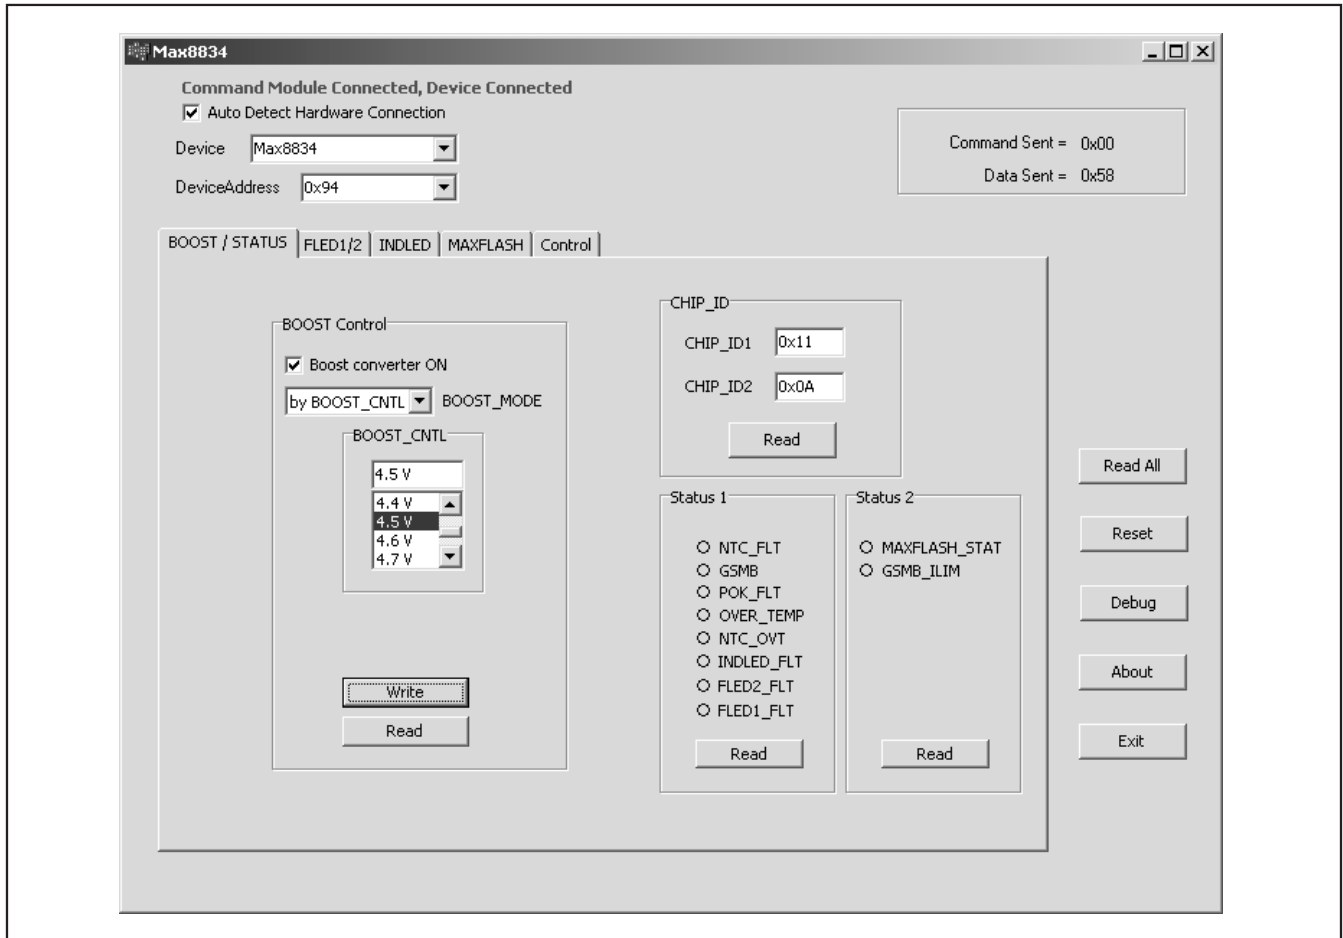
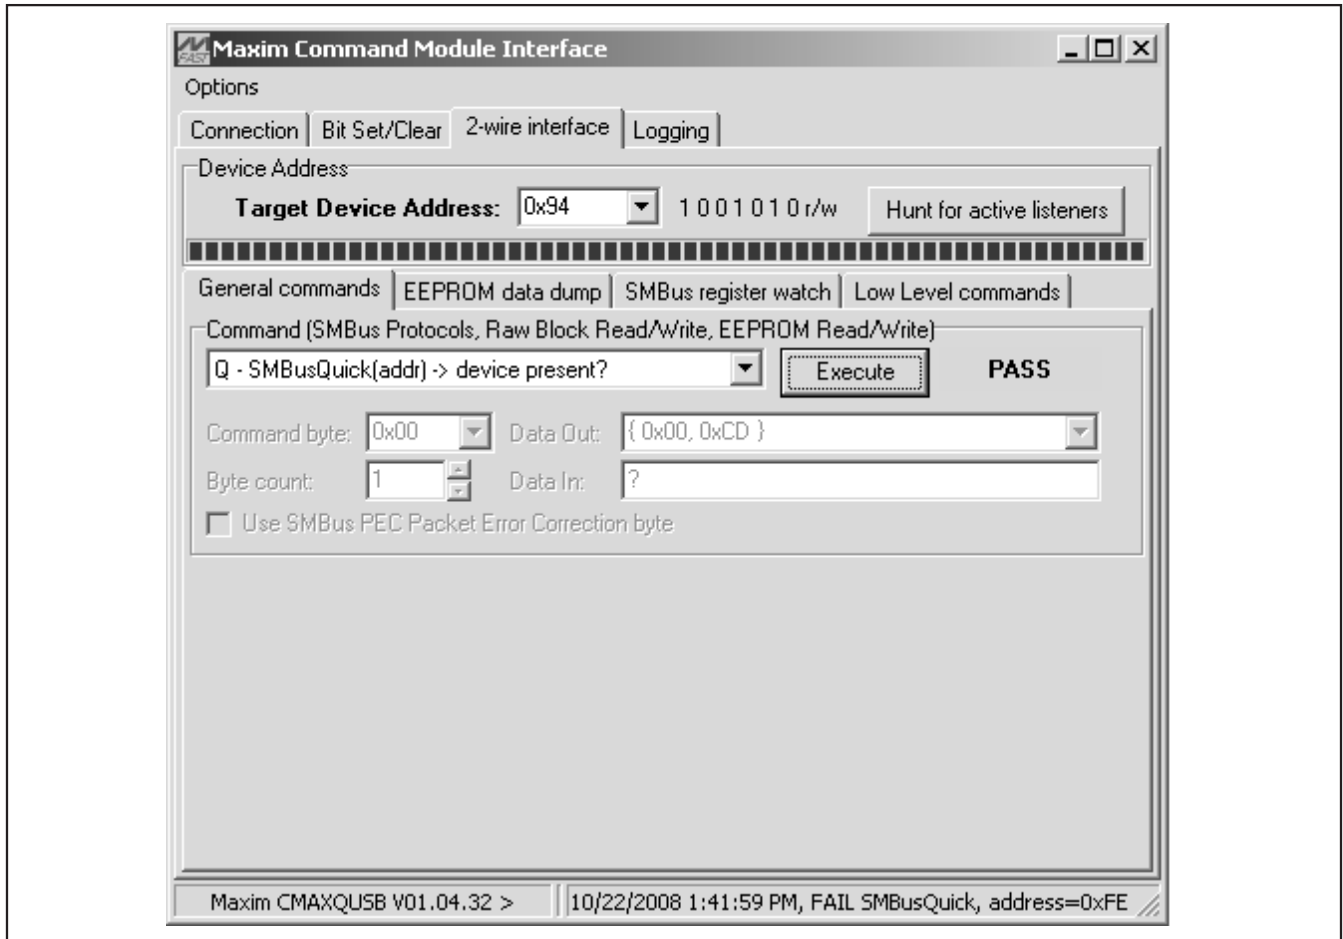

Figure 1. MAX8834 EV Kit Software Main Window
Figure 6. Maxim Command Module Interface Window
- 9) Start the MAX8834Y program by opening its icon in the **Start | Programs** menu. The EV kit software main window appears, as shown in Figure 1. Verify that the green LED (D4) turns on.
- 10) Normal device operation is verified when **Command Module Connected, Device Connected** is displayed at the top-left side of the MAX8834Y EV kit main window (Figure 1).
The MAX8834Y EV kit includes a MAXQ2000 microcontroller command module that provides the I²C interface to control the MAX8834Y configuration. The main window of the MAX8834Y EV kit software (Figure 1) displays five tabs to set the MAX8834Y configuration: **BOOST / STATUS**, **FLED1/2**, **INDLED**, **MAXFLASH**, and **Control**. Changes to the controls result in a write operation that updates the appropriate registers of the MAX8834Y. After any write or read operation, the related command and data sent are shown in the top-right box of the main window.
The MAX8834Y includes a 2MHz PWM step-up converter that supplies power to the flash LEDs or other loads. Using the EV kit software, the MAX8834Y can be configured in boost mode, dropout mode, or adaptive mode through the **BOOST_MODE** drop-down list. The output voltage is programmable from 3.7V to 5.2V (in 100mV steps) when in boost mode. See Figure 1 for details.
There are two methods for communicating with the MAX8834Y: through the normal user-interface panel (Figure 1) or through the SMBus commands available by pressing the **Debug** button in the main window. The **Maxim Command Module Interface** window (Figure 6) pops up and includes a **2-wire interface** tab that allows
for execution of the **SMBusSendByte()** command. Refer to the MAX8834Y/MAX8834Z IC data sheet for command-byte format. The **SMBus dialog** boxes accept numeric data in binary, decimal, or hexadecimal. Hexadecimal numbers should be prefixed by \$ or 0x. Binary numbers must be exactly eight digits. See Figure 6 for an illustration of this tool.